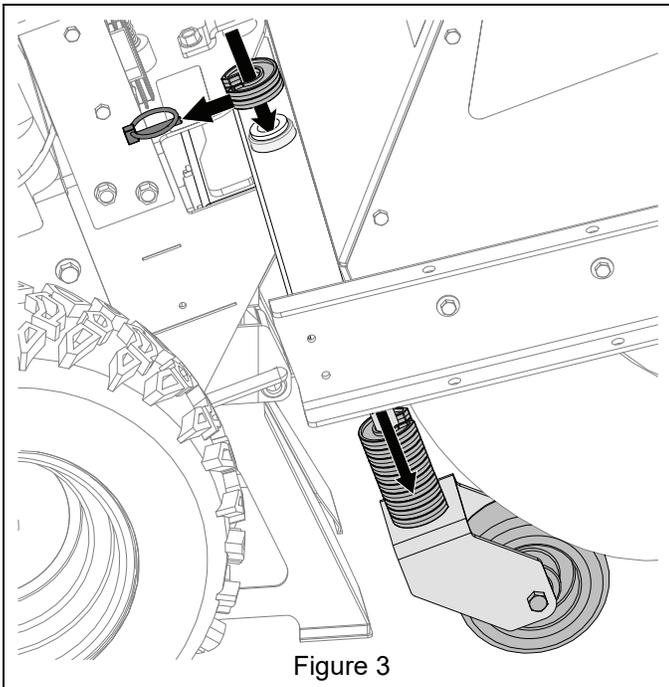

Figure 3
- Support the right caster wheel assembly. Remove and retain the lynch pin from the top of the caster shaft. Remove and retain caster assembly and height adjuster clips. See Figure 3.